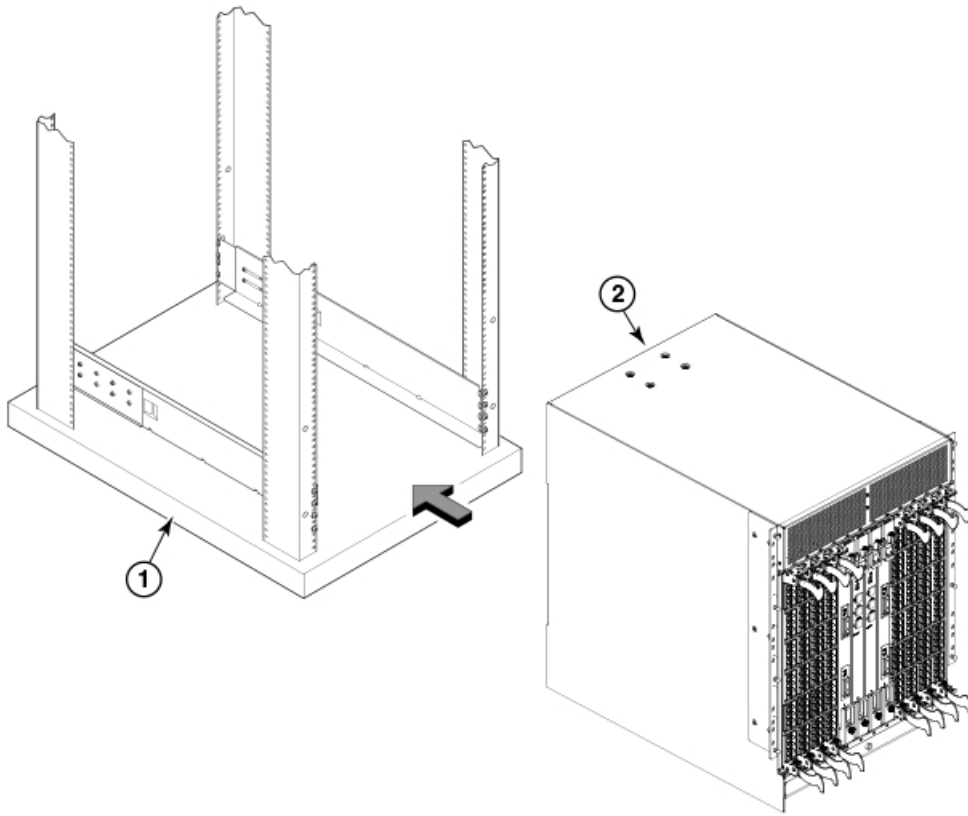

Figure 7. Positioning the device for installation in a rack
6. Fasten the port side of the device to the rack rails. Use three 10-32 x 5/8 inch (1.58 cm) screws per rail. Tighten the screws to a torque of 32 in-lb (37 cm-kg). Refer to Figure 7 on page 24.